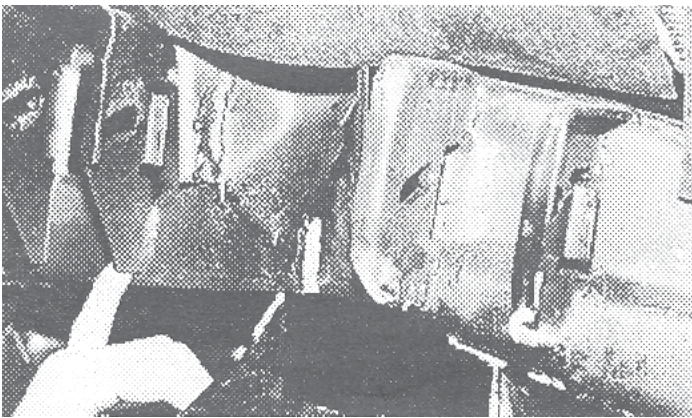

Fig. 12C
- (IV) Trim front leg of lower receiver flush with outside of frame. "Tune" leg rearward, **Fig. 12C.** Dress and final fit STEP (31) to accommodate installation of brackets "LR" and "RR" respectively. Repeat step 12 on opposite side.